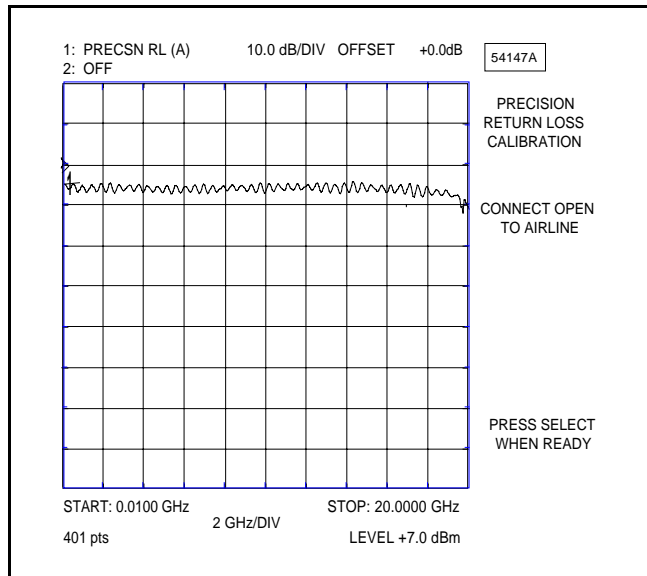

Figure 11. Example of a Good Connection
10. Verify that the display resembles that shown in Figure 11.